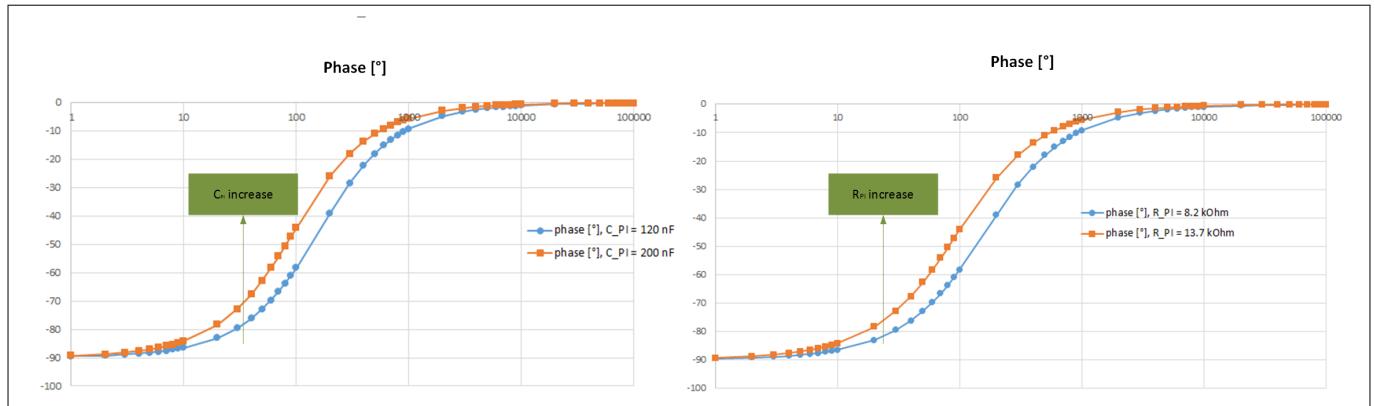
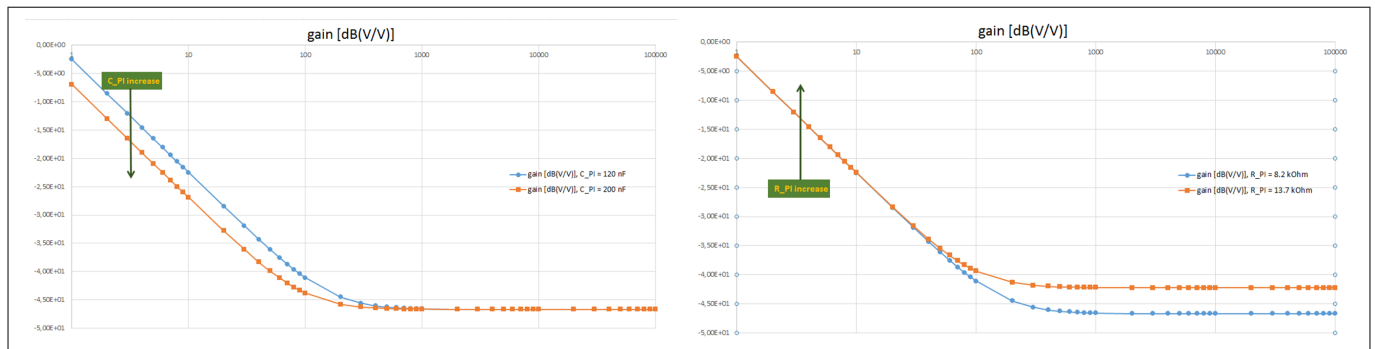

Figure 12 Dependency of phase on R_{PI} , C_{PI}
Figure 13 Dependency of gain on R_{PI} , C_{PI}
Figure 12 shows the dependency of the phase on modifications of C_{PI} and R_{PI} based on equation (1) of Equation 9. Figure 13 shows the dependency of the gain on modifications of C_{PI} and R_{PI} based on equation (2) of Equation 9. In all cases the parameter of choice is increased by 67 percent.